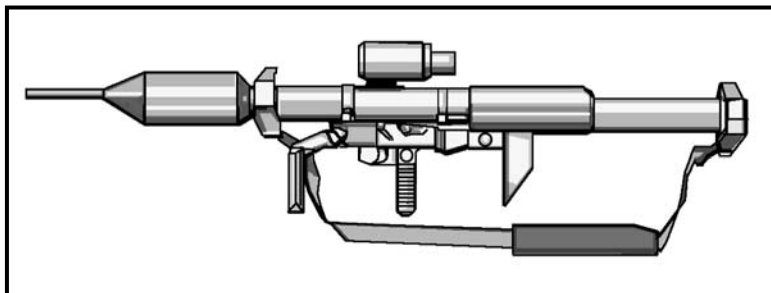

Figure H-8. German 60-mm antitank grenade launcher, Panzerfaust-3.
c. **German 60-mm Antitank Grenade Launcher, Panzerfaust-3** (Figure H-8).